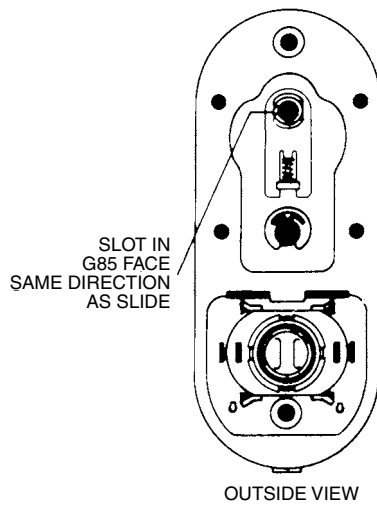

Figure 13.89 Changing hand, Step 20.
20. Turn the slot in the G85 unit to face the same direction as the slide (Fig. 13.89).